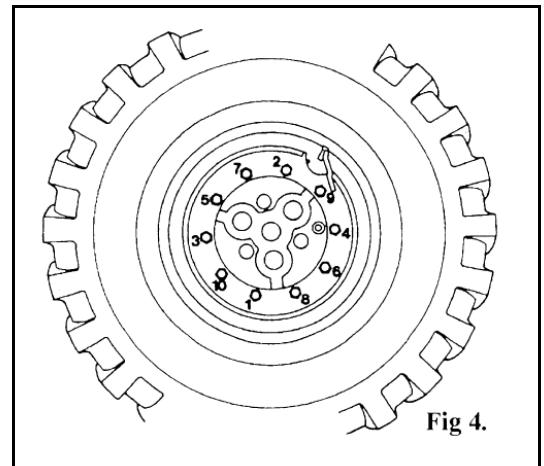

Fig 4.
- When refitting the wheel assemblies, tighten at least 2 diagonally opposite wheel nuts and then tighten the tyres to the specified torque in the order shown in Fig. 4.